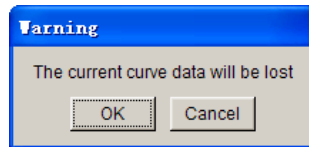

Figure 8.5.70 User Prompt dialog box
**RESTORE:** Allow the user to select curves from the clipboard and restore as the current curve. If the user has already defined current curve, the program will prompt the user to use the curve in clipboard to overwrite the current curve. The program displays a dialog box, as shown in Figure 8.5.70 to prompt the user for confirmation.